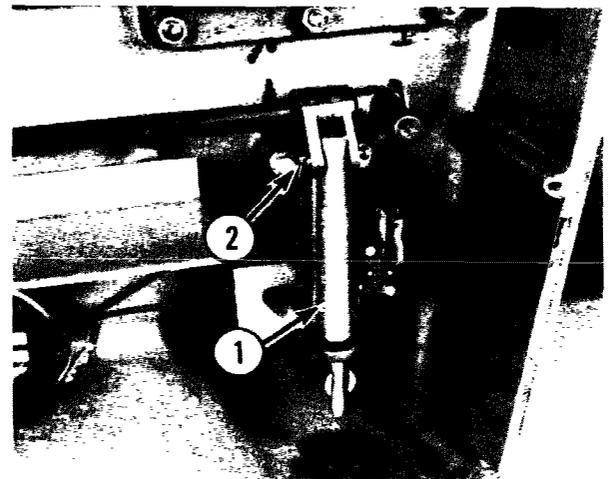

Fig. 2-41
## B. Interlock pin bar removal (1, Fig. 2-41).
- (1) Follow switch rod removal steps A. (1) through A. (5).
- (2) Remove the cotter pin and clevis pin (2, Fig. 2-41). Remove the bar.
- (3) Reassemble in the reverse order of removal.
- (4) Test for correct interlock operation.